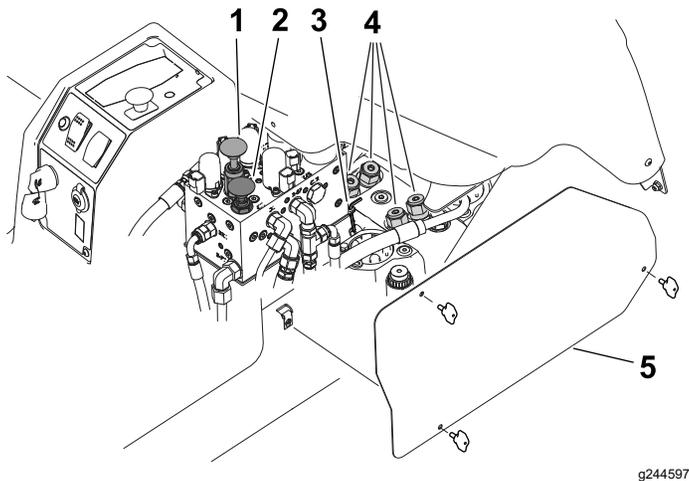

Figure 65
Note: A hex wrench (6 mm) is provided with the machine and is located next to the hydraulic manifold (Figure 65). Use the wrench to perform this procedure.
2. Remove the access panel from the right side of the control console (Figure 65).